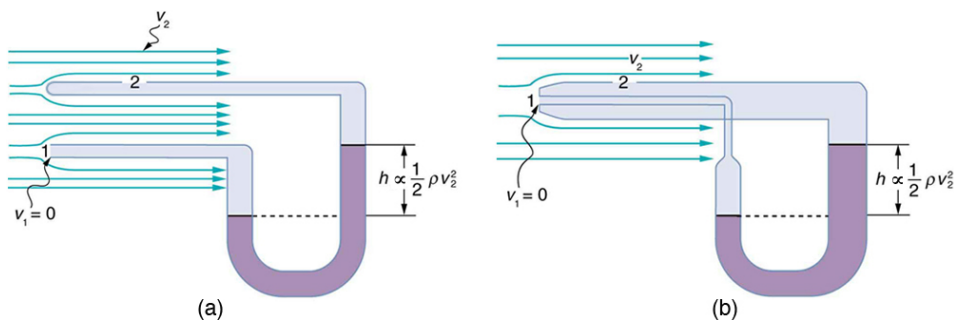

Figure 12.7 Measurement of fluid speed based on Bernoulli’s principle. (a) A manometer is connected to two tubes that are close together and small enough
**Velocity measurement** Figure 12.7 shows two devices that measure fluid velocity based on Bernoulli's principle. The manometer in Figure 12.7(a) is connected to two tubes that are small enough not to appreciably disturb the flow. The tube facing the oncoming fluid creates a dead spot having zero velocity ( $v_1 = 0$ ) in front of it, while fluid passing the other tube has velocity  $v_2$ . This means that Bernoulli's principle as stated in  $P_1 + \frac{1}{2}\rho v_1^2 = P_2 + \frac{1}{2}\rho v_2^2$  becomes
Figure 12.7(b) shows a version of this device that is in common use for measuring various fluid velocities; such devices are frequently used as air speed indicators in aircraft.